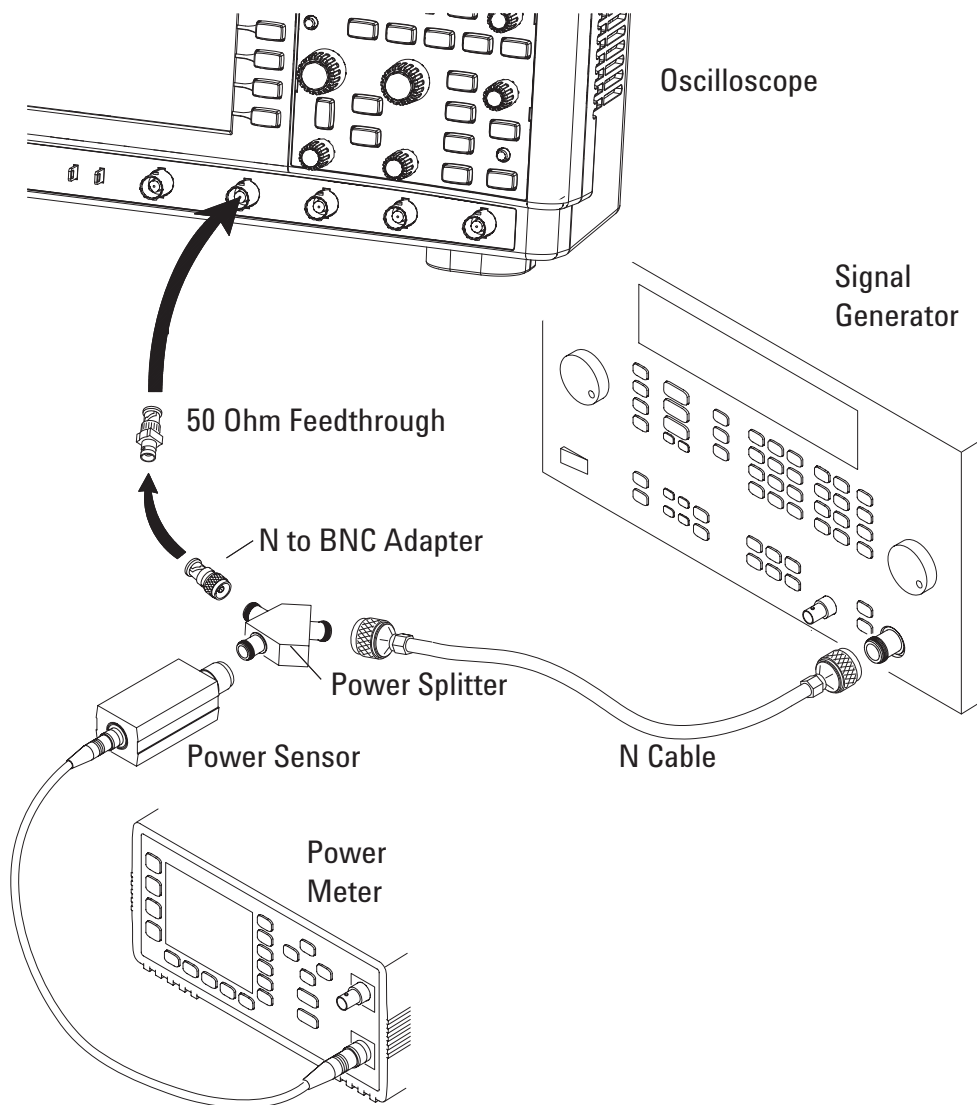

Figure 3 Setting Up Equipment for Bandwidth (-3 dB) Verification Test
- 1** Connect the equipment (see **Figure 3**).